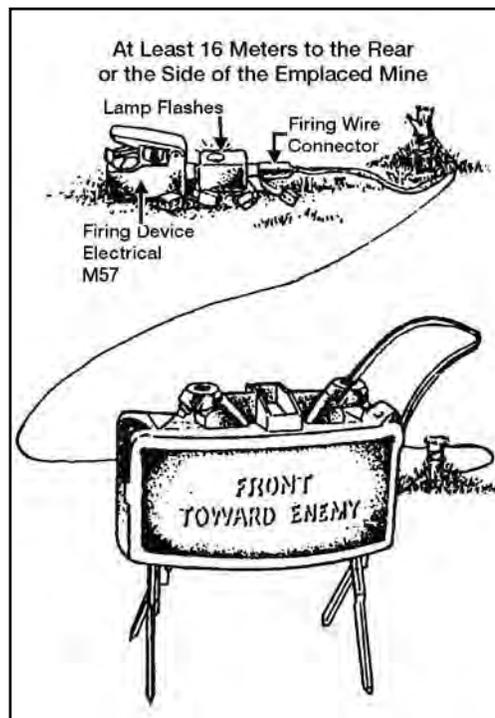

Figure 071-325-4425-12. Retesting the circuit
- Repeat step 2 to test the circuit after the firing wire is laid out and the cap is placed inside the mine to see if there are any breaks in the wire (figure 071-325-4425-12).